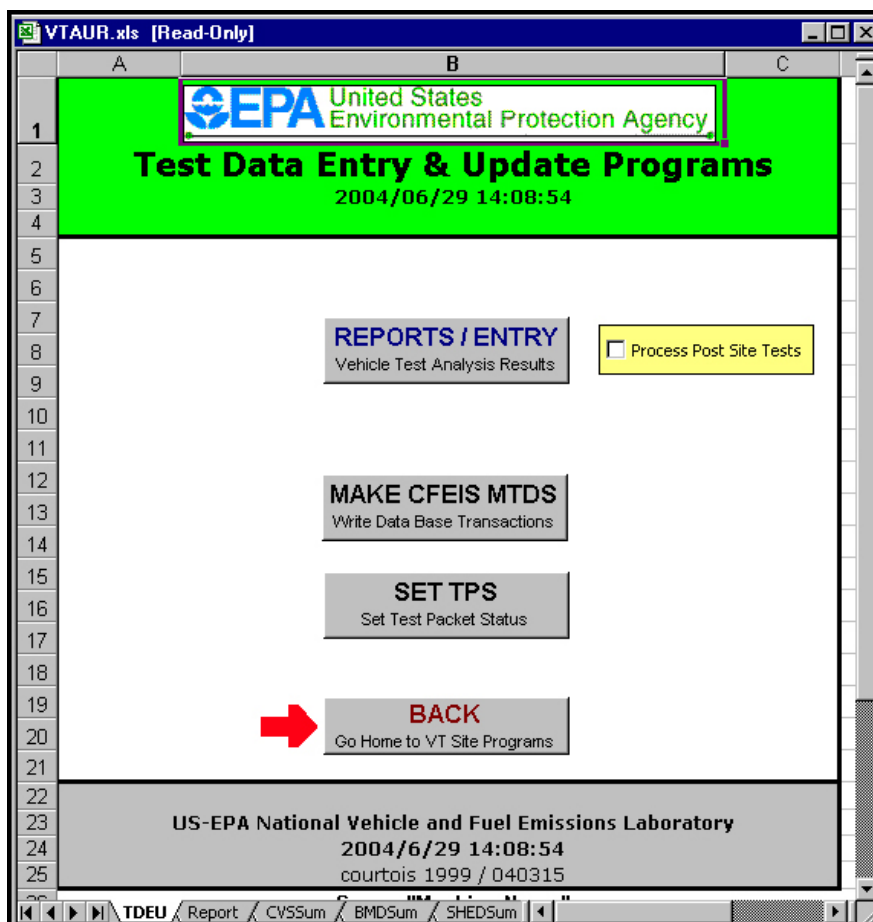

Figure 47
- 816 The "Test Data Entry & Update Programs" screen will appear. Click on the "Back" button. See the arrow in Figure 47.